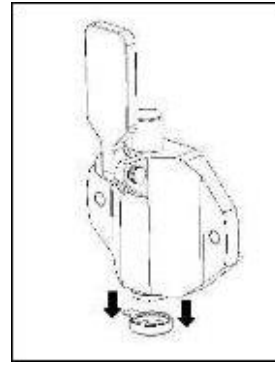

Fig. 42
- Remove the device that gives the star-shaped form to the ice cream from the flange (Fig. 42).